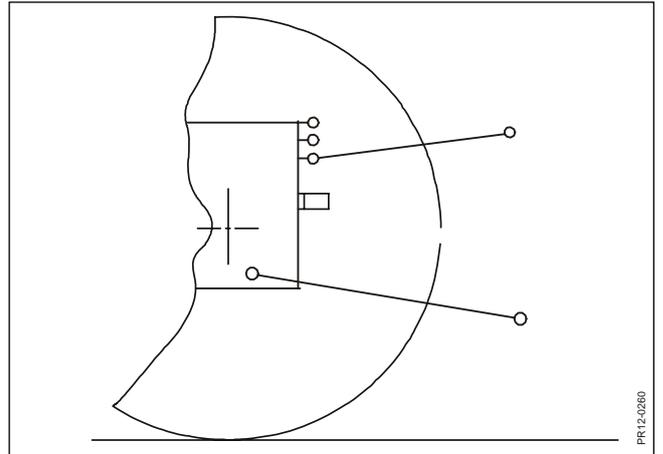

Fig. 2-14
- Fig. 2-14:** Mount the top link. Try low position on the tractor side first with a view to subsequent connection and disconnection.